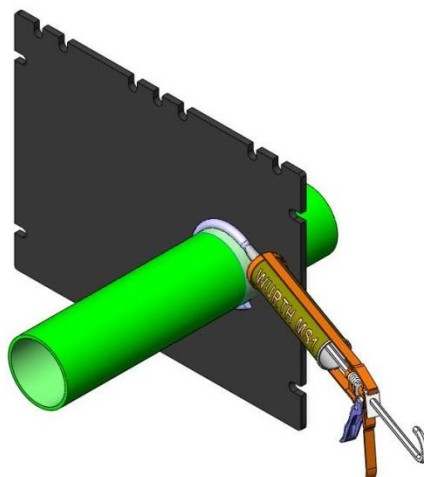

Fig 5a
5. Mark and cut the polypropylene duct entry panel to suit duct work. Cut the duct entry holes through the polypropylene panels using a jig saw or hole saw approximately 5mm larger than the duct. Seal the duct to the polypropylene panels using Wurth MS1 epoxy mortar- Ref Fig 5a (*refer Price List for Epoxy Mortar*).